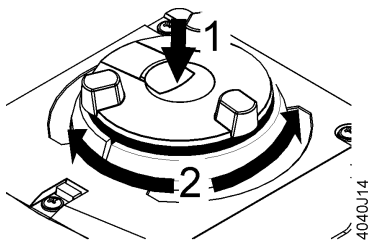

Figure 14.
When turning the manual adjuster in a clockwise/counterclockwise direction (2), the actuator's stem extends/retracts. See Figure 14.